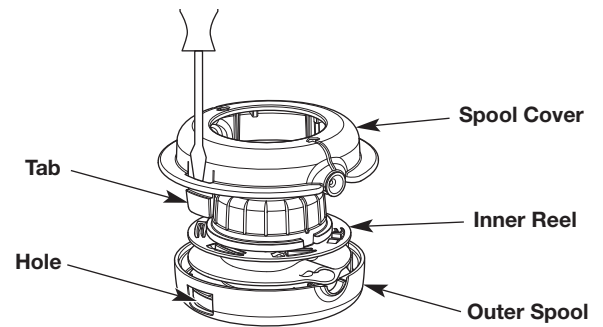

Fig. 2
5. Remove the spool cover (Fig. 2).
7. Use a clean cloth to clean the inner reel, outer spool and spool cover (Fig. 2).
8. Align the tabs on the spool cover with the holes on the outer spool (Fig. 2). Push the spool cover onto the outer spool until the tabs securely snap into the holes.